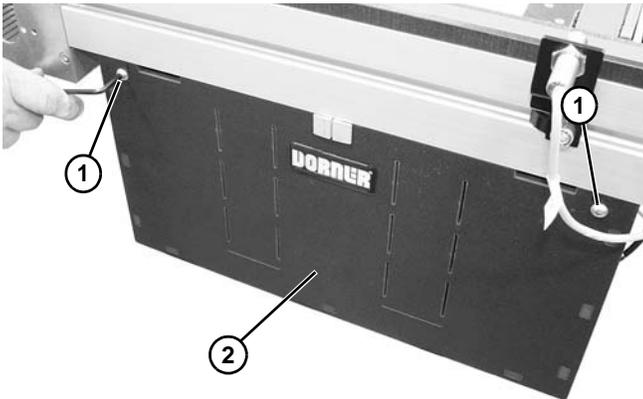

Figure 109
1. If installed, remove button head screws (Figure 109, item 1) and guard kit (Figure 109, item 2).